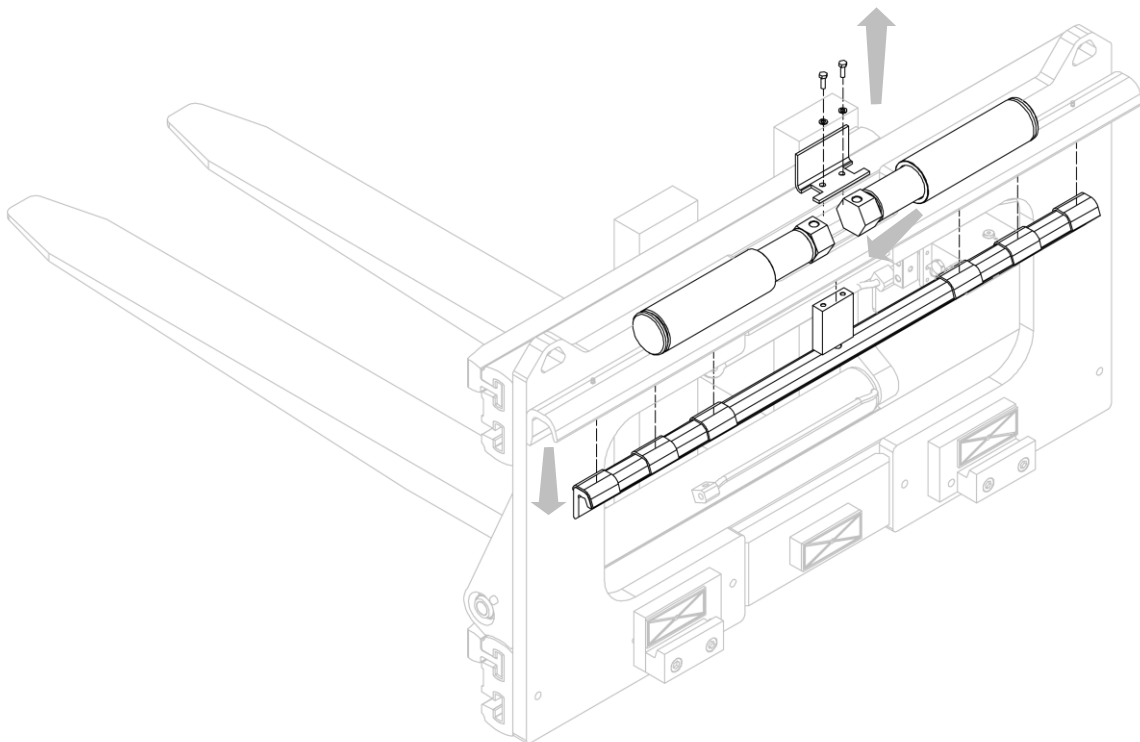
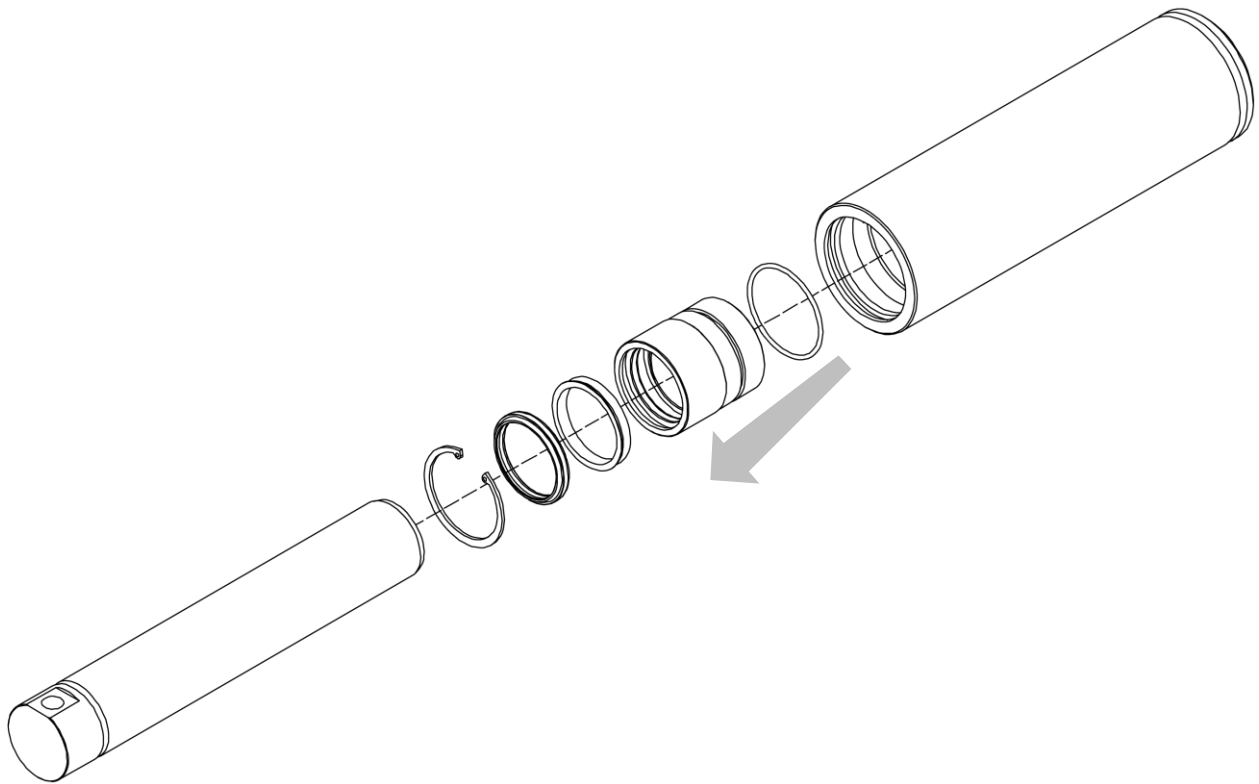

Figure 31
Figure 32
3. Remove dual coupling (A) after removing the “protection bracket” (P) with its associated bolts, (in *Removing the Equipment from the Forklift Truck* this step has already been outlined).
7. Use *Figure 31* and *Figure 32* as guides.